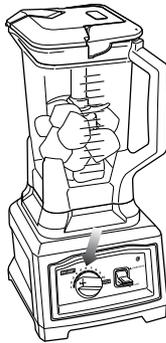

Fig. 7
- 9 When you have reached your desired consistency, reduce speed slowly and stop the unit by pressing up on the Start/Stop/Pulse toggle. (Fig. 7)